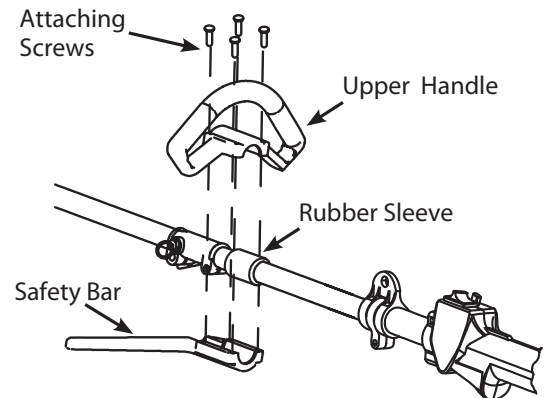

Fig. 4
2. Assemble the upper handle, safety bar and 4 attaching screws as shown in (Fig.4). Position the handle parts evenly over the rubber sleeve on shaft. Do not completely tighten.